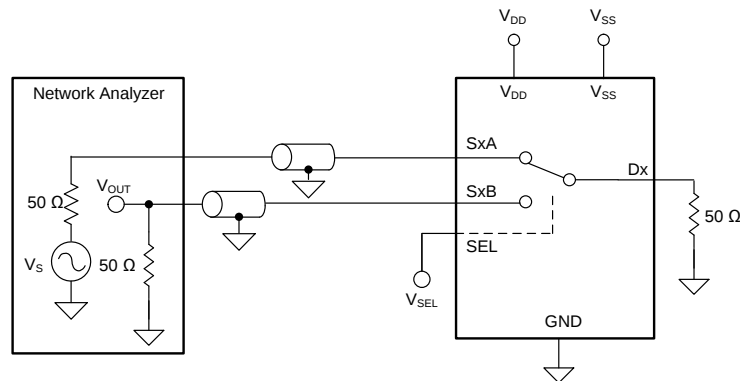

图 24. Intra-channel Crosstalk Measurement Setup
1. Intra-channel crosstalk: the voltage at the source pin (Sx) of an off-switch input, when a 1-VRMS signal is applied at the source pin of an on-switch input in the same channel, as shown in 图 24